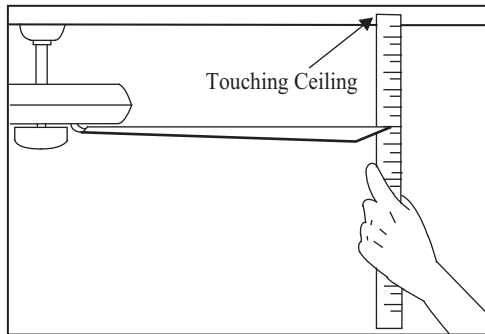

Figure 18
2. Most fan wobble problems are caused when blade levels are unequal. Check this level by selecting a point on the ceiling above the tip of one of the blades. Measure from a point on the center of each blade to the point on the ceiling. Measure this distance as shown in Figure 18. Rotate the fan until the next blade is positioned for measurement. Repeat for each blade. Measurements deviation should be within $1/8"$. Run the fan for 10 Minutes.